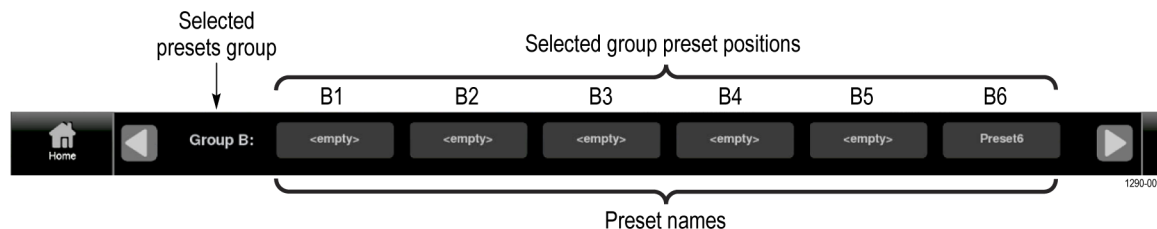

Figure 27: Preset selection controls (Group B shown)
- e. When you select OK, the preset name changes from *<empty>* to **Preset<number>**, where the number is the preset position within the preset group. (See Figure 27.)